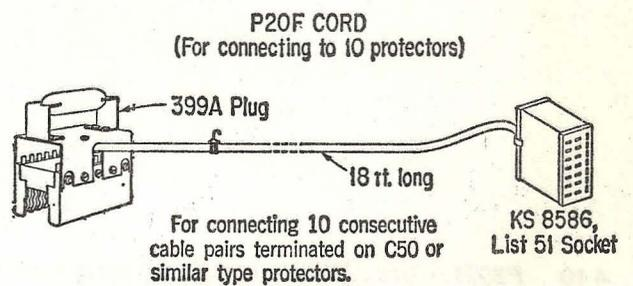

Fig. 9
4.07 P20F Cord: This cord is illustrated in Fig. 9.